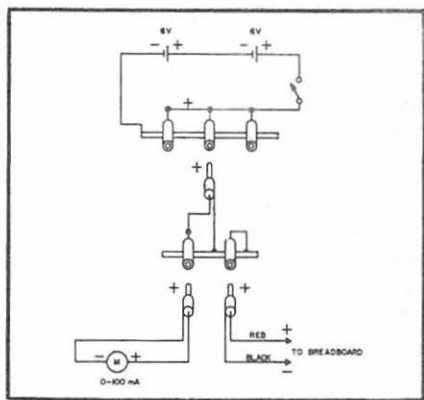

Fig. 5. Handy metering jacks and plugs.
*Handy meter jacks.* Figure 5 shows an elementary but flexible and useful metering method for checking total or only one stage current.